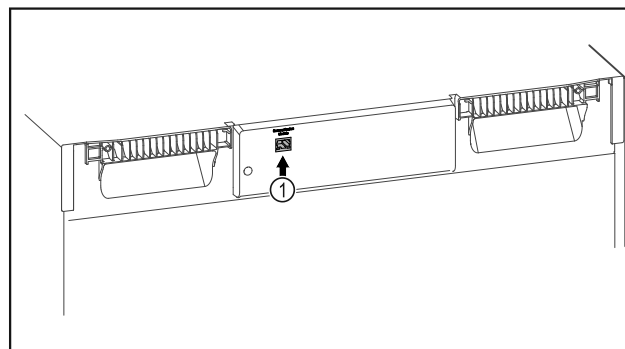

Fig. 154
- ❑ SmartModule Fig. 154 (1) is in use.